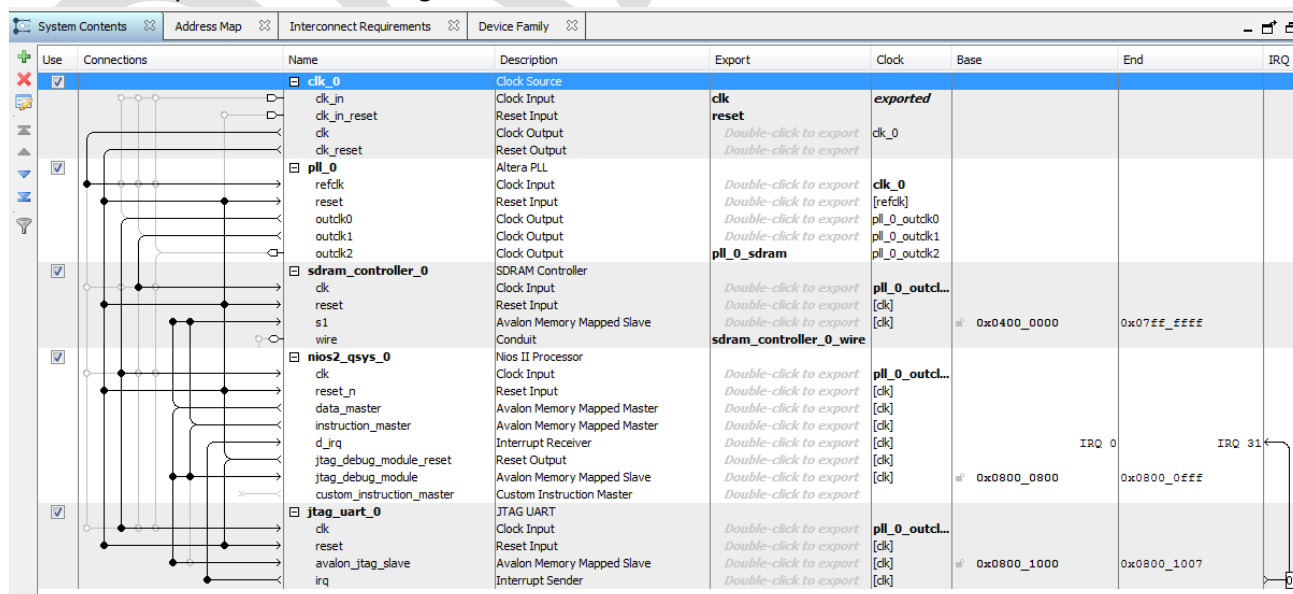

Figure 7-2. Basic Nios II System with SDRAM and JTAG UART
9. Connect the system as shown in Figure 7-2 below: